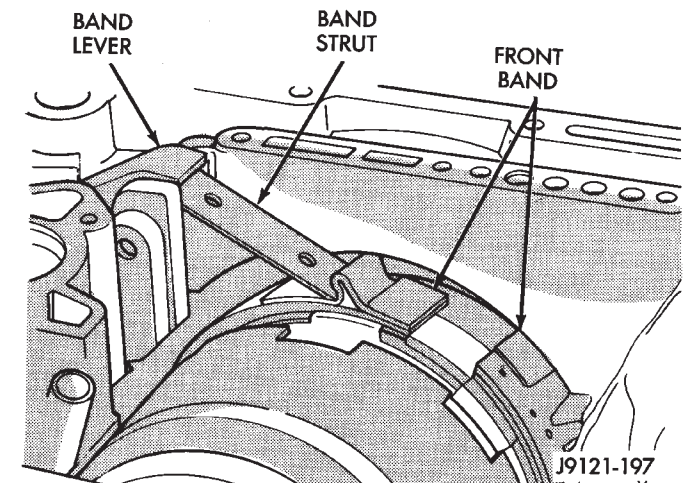

Fig. 129 Front Band Linkage Installation
(20) Assemble front band strut.
(21) Install front band adjuster, strut and adjusting screw (Fig. 129).
(22) Tighten band adjusting screw until band just grips clutch retainer. Verify that front/rear clutches are still seated before continuing.